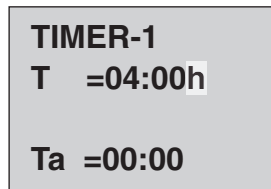

Fig. 6
5. Each timer has optional units of time in seconds (s), minutes (m), and hours (h). To change the unit of time use the left/right arrow keys ◀ or ▶ to move the cursor to the unit field. Change the unit of time using the arrow up/down keys ▲ or ▼. Once all the values have been set press OK to accept. See figure 6.